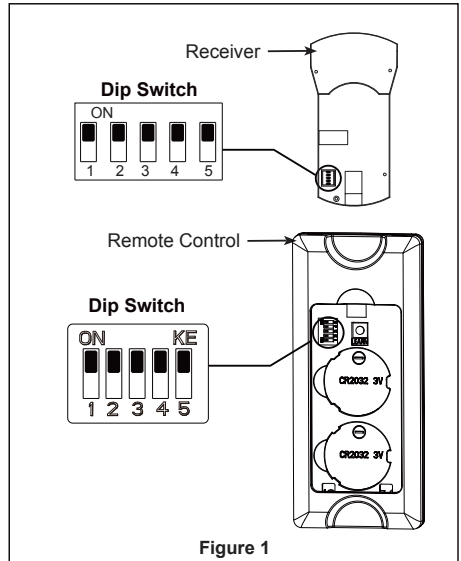

Figure 1
1. To set the code on receiver unit, slide dip switches to the same positions as set on the remote control. (Figure 1)